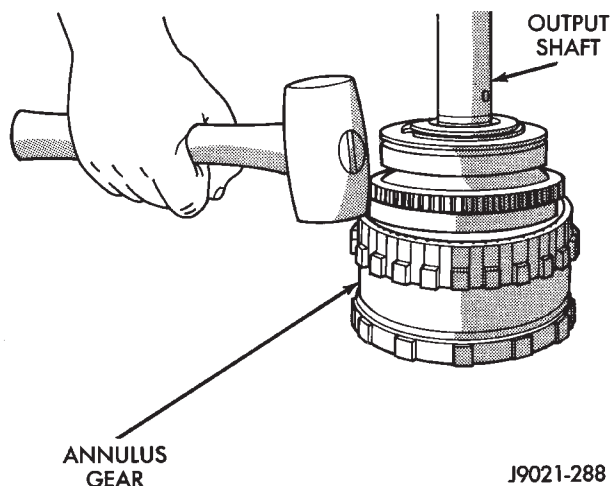

Fig. 209 Annulus Gear Removal
(11) Remove annulus gear from output shaft (Fig. 209). Use rawhide or plastic mallet to tap gear off shaft.